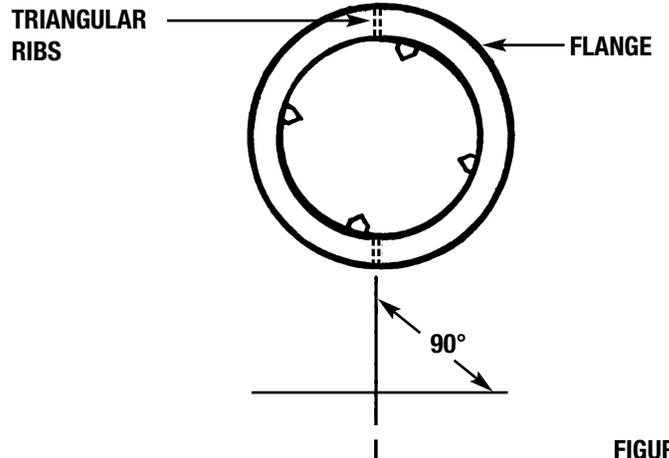

FIGURE 4
2. Align triangular ribs with a level if using a T-arm or shade that must be positioned properly (see Fig. 4).
3. Tighten clip screws (I) to secure housing to surface.
5. Install trim (J).